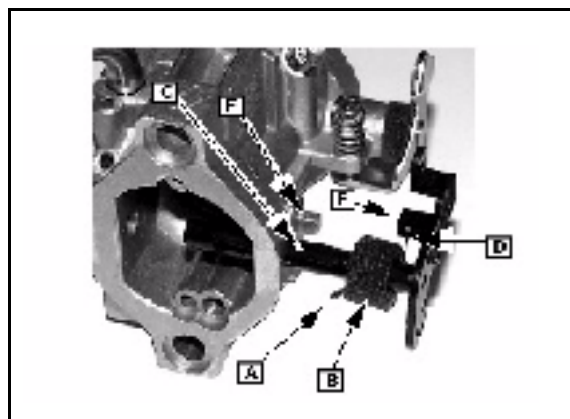

Fig. 140
1. If separated, place the throttle return spring ([A] Fig. 140) inside the large foam seal ([B]).
2. Slide the seal and spring on to the choke shaft ([C]) with the top of the spring ([D]) contacting the choke shaft lever ([E] Fig.140).
3. Turn the choke shaft ccw while gently pushing it into the carburetor body until the bottom end of the spring ([A]) rests on the back of the spring perch ([F] Fig. 140).